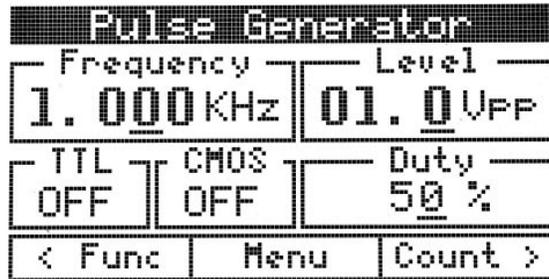

Figure 4
*Figure 4* shows the trainer's screen displaying the pulse generator panel.
Pressing CMOS button enables/disables the CMOS signal. In order to enable/disable the TTL output, the TTL button must be pressed. The corresponding LED is turned on. CMOS and TTL states are displayed on the screen. See *Figure 4*.